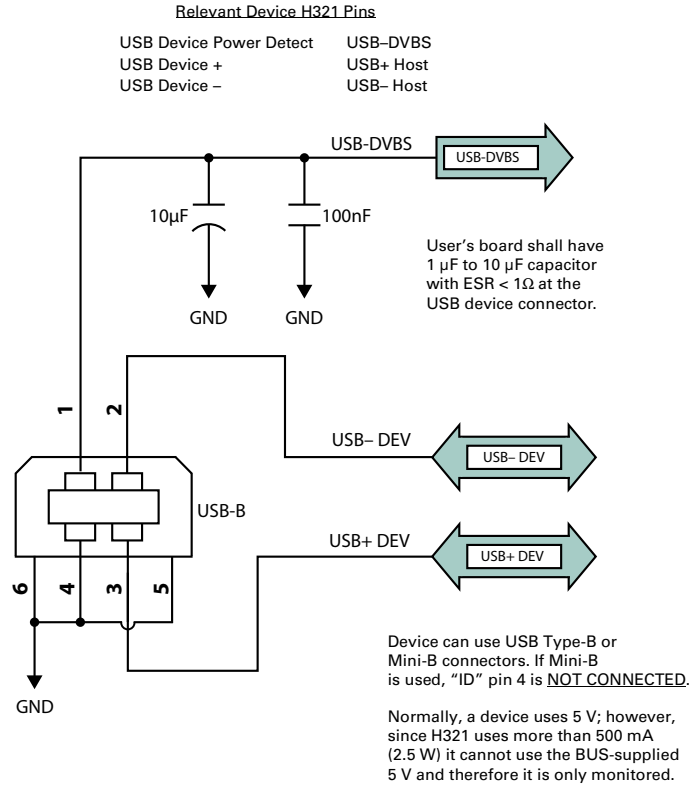

Figure 2-3: H321 USB device design example
- USB Device port (data communication) shown in Figure 2-3 on page 15 serves as a high speed data communications port, such as for a PC